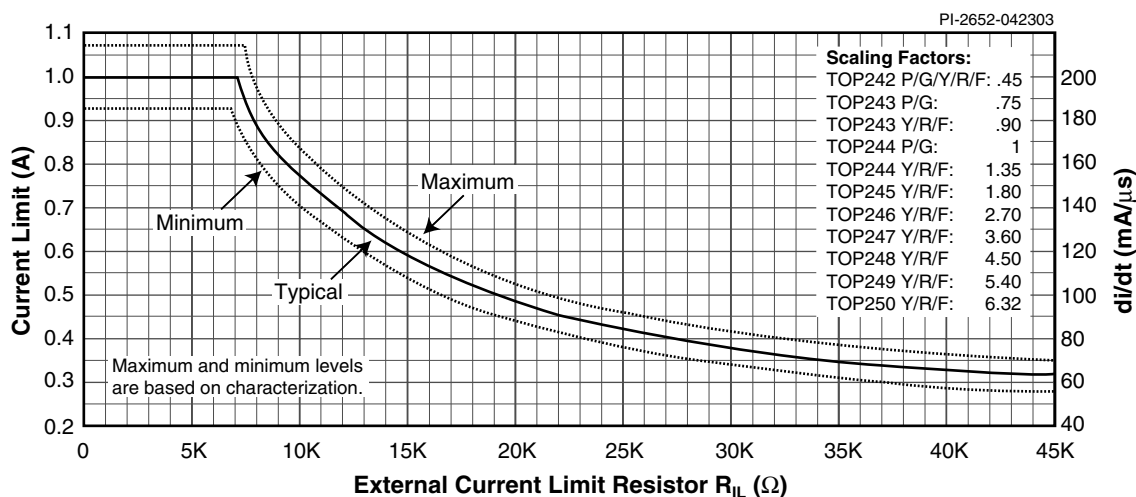

Figure 54b. Current Limit vs. External Current Limit Resistance (see Figures 55b and 56b for TOP245P/G and TOP246P/G).
- C. For externally adjusted current limit values, please refer to Figures 54b, 55b and 56b (Current Limit vs. External Current Limit Resistance) in the Typical Performance Characteristics section. The tolerance specified is only valid at full current limit.